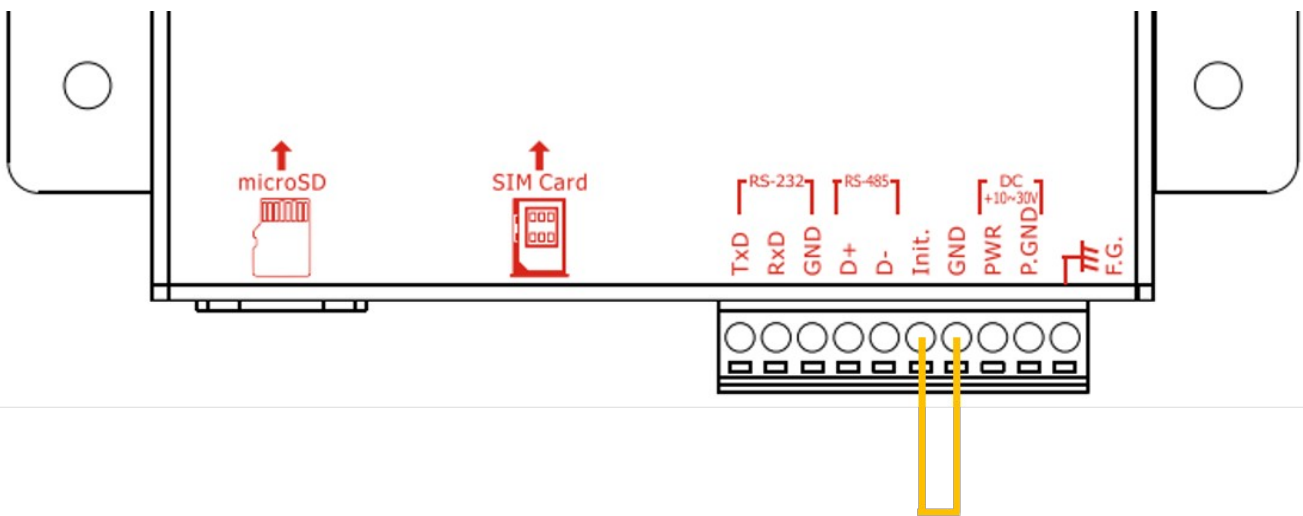

Figure 7.10.8
- D. After the Utility setting is completed and written to the GTP-541M, confirm whether the 4th Pin and the 5th Pin of the GTP-541M have been removed as shown in Figure 7.10.8, and restart the GTP-541M.